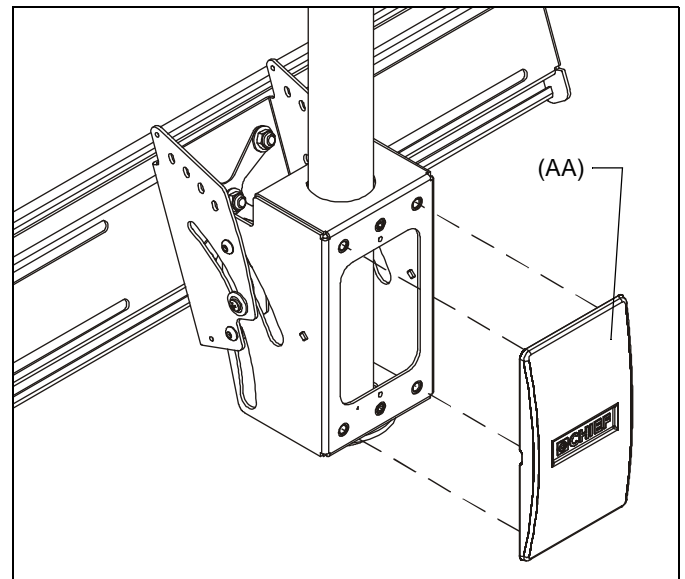

Figure 13
2. Install back cover (AA) into four holes on back of ceiling mount. (See Figure 13)